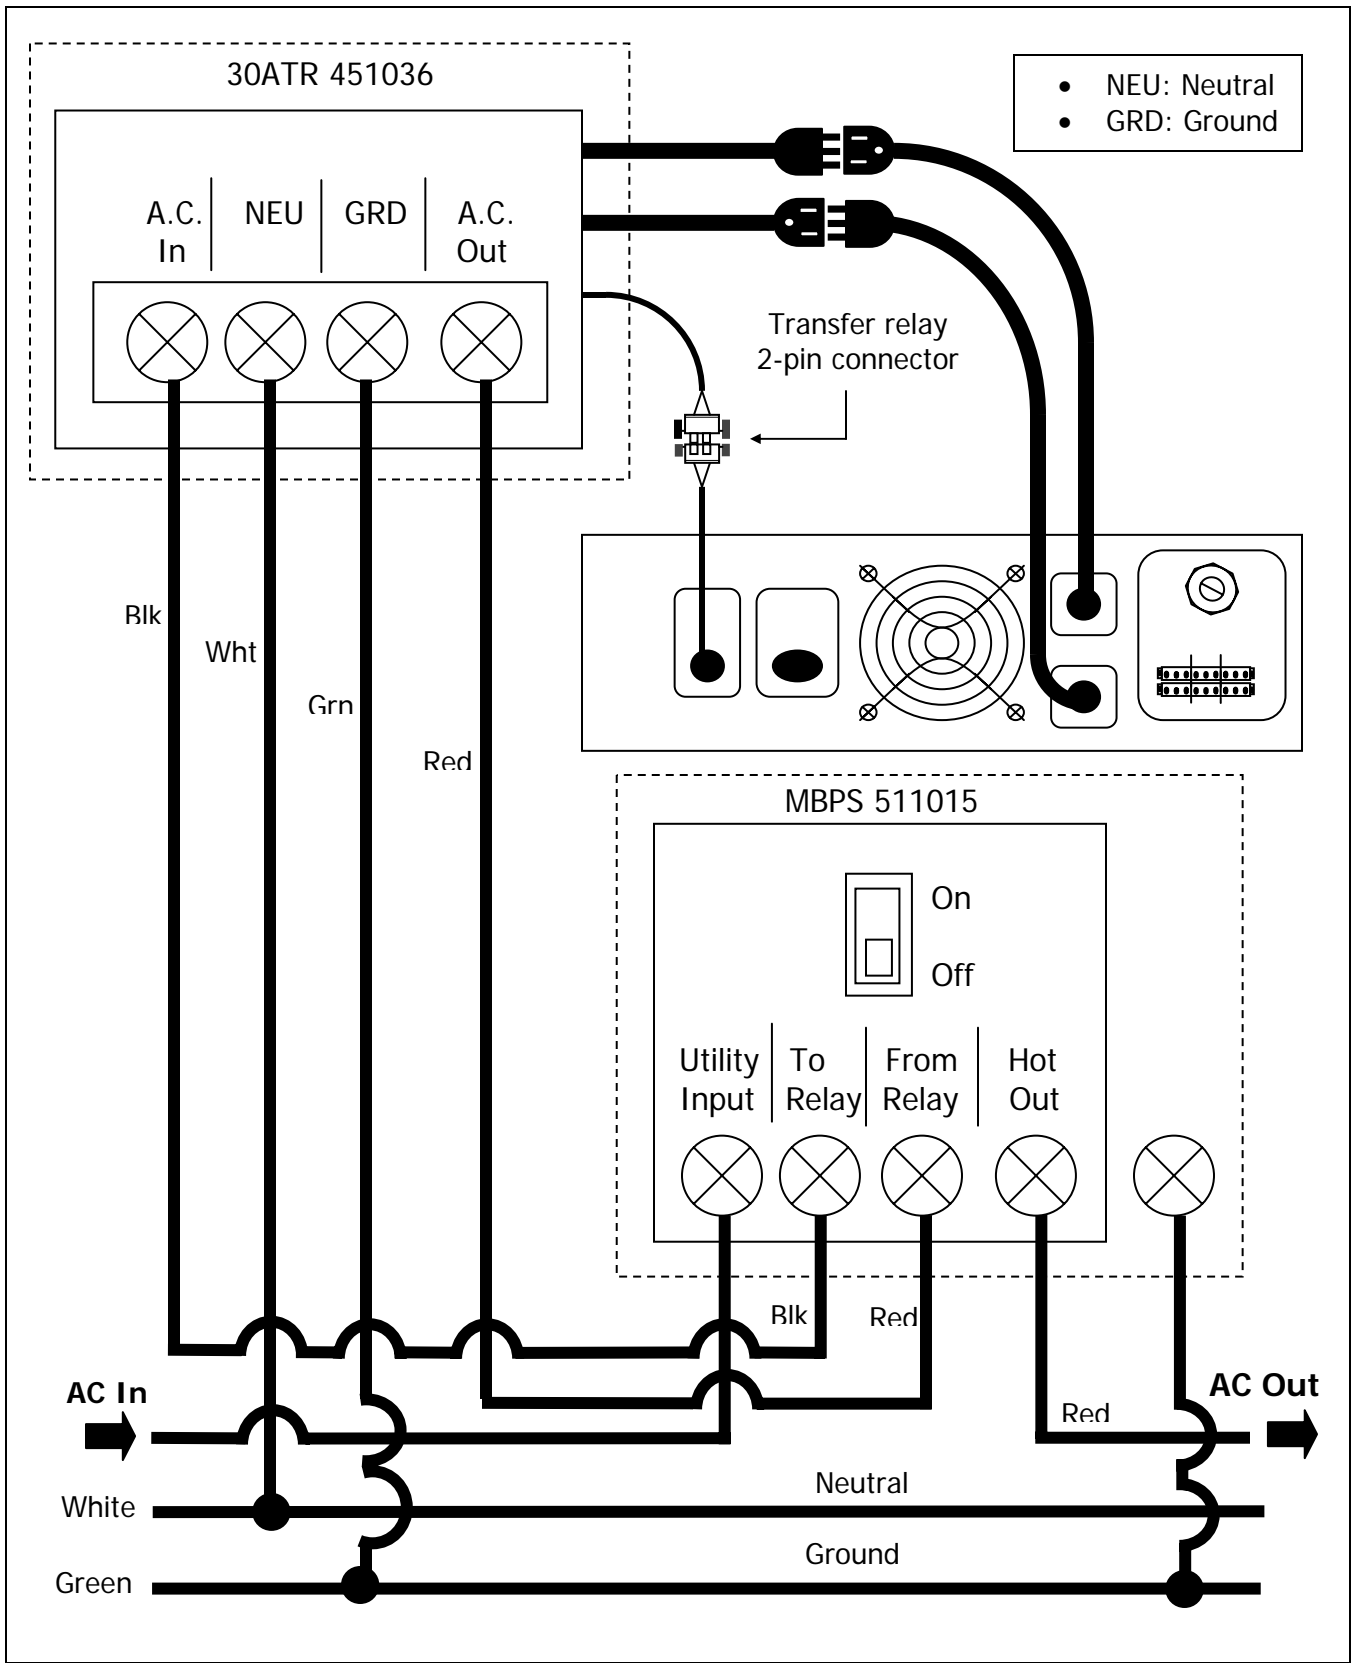

FIGURE 12: AC wiring configuration MBPS and 30ATR
- 3) **30A AC Transfer Relay connector plug:** Plug the male two-pin connector 30A automatic transfer relay drive wire (red and black) coming out from the BBS module into the female two-pin connector wire (red and black) coming out from the 30A Automatic Transfer Relay. See Figures 12 and 13 on pages 16 and 18.